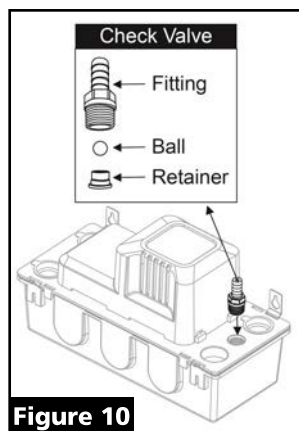

Figure 10
7. Remove the discharge tubing from the barb fitting on the pump. Unthread the fitting and remove the check valve ball. See Figure 10. Backflush the fitting with water to clean. This should be performed over a pail or screen to make sure the check valve ball is not misplaced or lost. Re-attach the fitting to the pump by reversing above steps. Do not over tighten, hand tighten only.